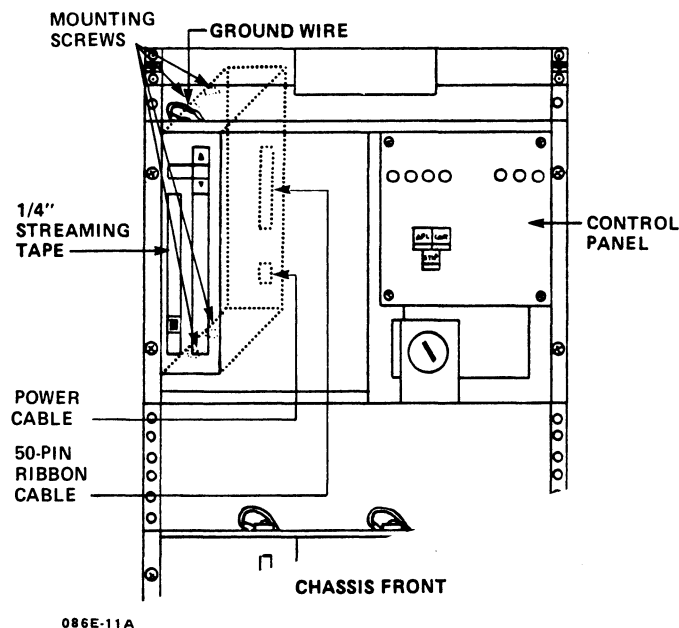

Figure 6-17. Removing the Tape Drive
7. Connect and route the following cables making certain that pin 1 of each cable connector aligns with pin 1 of the matching edge or power connector. Figure 6-17 illustrates the routing of the cables.
One 1/4-inch streaming tape drive is supported by the system. Figure 6-17 illustrates its location. The 1/4-inch tape drive requires a LOTUS 800 Controller. To remove a 1/4-inch tape drive, perform the preliminary steps at the beginning of this section, then: